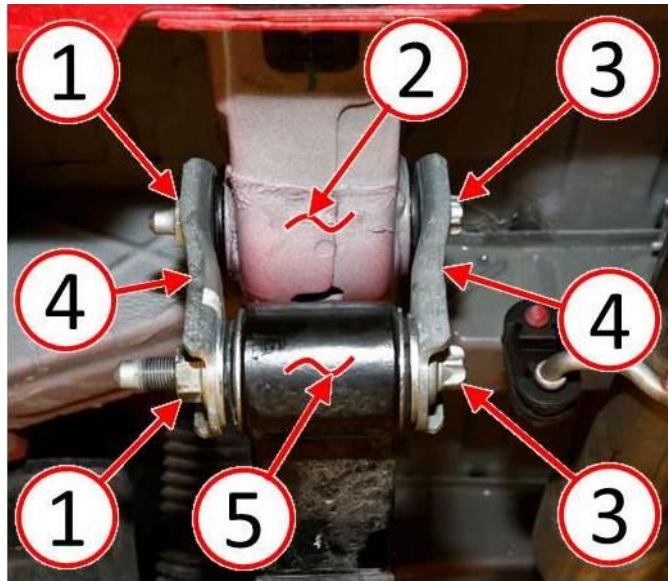

Fig. 16 Shackle Assembly
22. Install the NEW shackle nuts (1) onto the shackle bolts (3) but do not tighten until the vehicle is resting at curb height (Fig. 16).
- Shackle nuts (1) face toward outside of vehicle (Fig. 16).
- Shackle bolt heads (3) face toward center of vehicle (Fig. 16).
- Shackle plates (4) flared-outward (wide) end MUST point up toward the vehicle frame (2) and flared-inward (narrow) end MUST point down toward the spring (5) (Fig. 16).
26. With vehicle resting at curb height, torque the shackle fasteners (1,3) to 195 N·m (144 ft. lbs.) (Fig. 16).